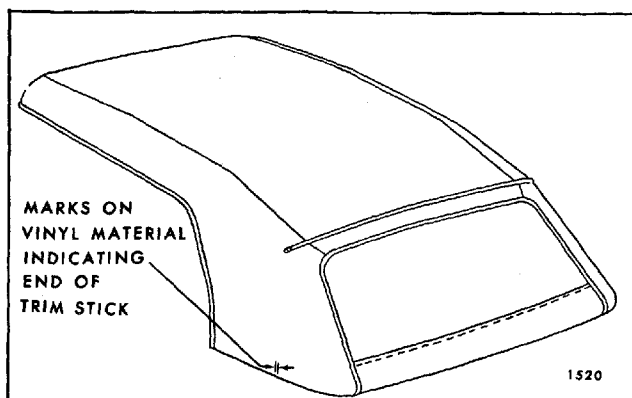

Fig. 6-49—Marking Top Material
8. Using a pencil, mark both ends of rear and rear quarter trim sticks on vinyl surface of top material (Fig. 6-49).